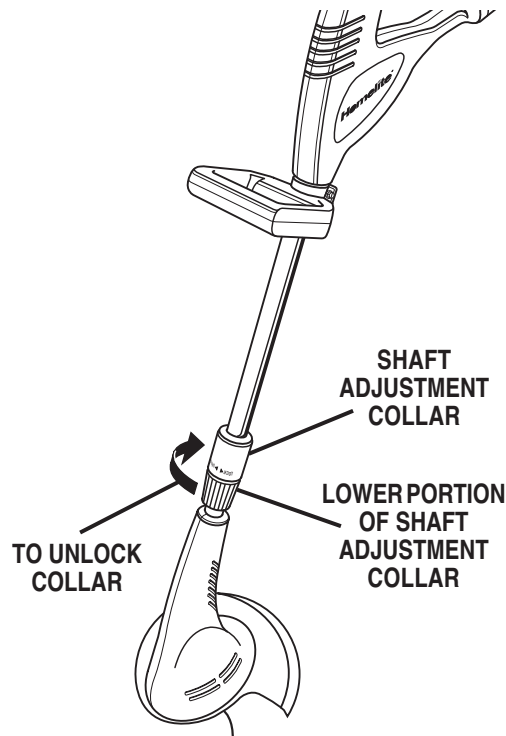

Fig. 3
- Rotate the lower portion of the shaft adjustment collar to the "Unlock" position. See Figure 3.